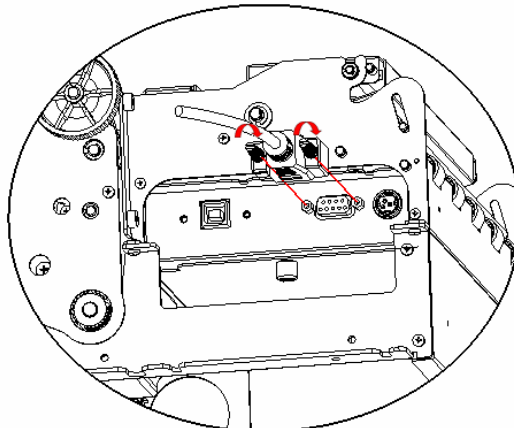
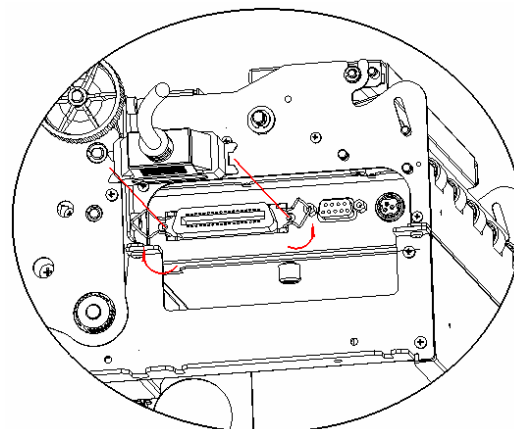
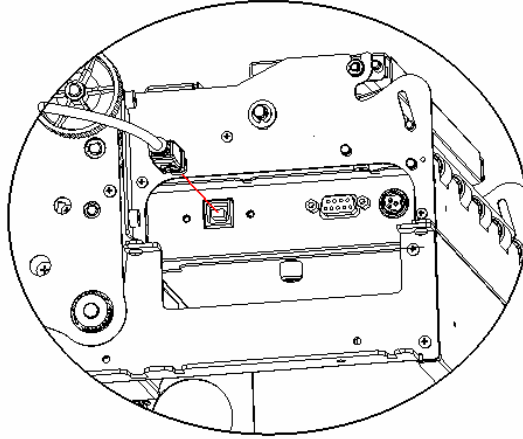

Fig.4.4.1 Serial interface layout
Fig.4.4.2 Parallel interface layout
Fig.4.4.3 USB interface layout
- 2) Connect one end of the interface cable into a relevant interface of the printer and fix them with screws or latch springs as Fig.4.4.1, Fig.4.4.2 and Fig.4.4.3.